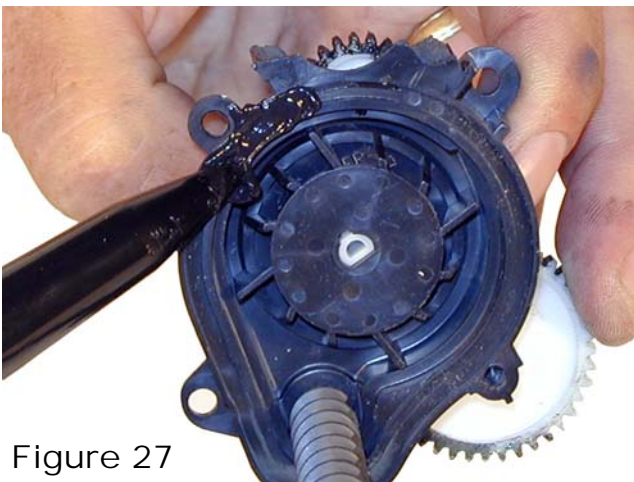

Figure 27
22) Put a small bead of silicon in the groove of the cover. Install the black cover and 2 screws. Make sure the auger and gear align. See **Figure 27**